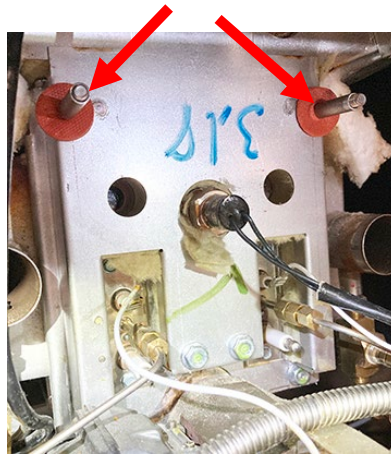

Figure 72
- 72. Slide the plenum gaskets and spacers over the upper shafts (see Figure 72).